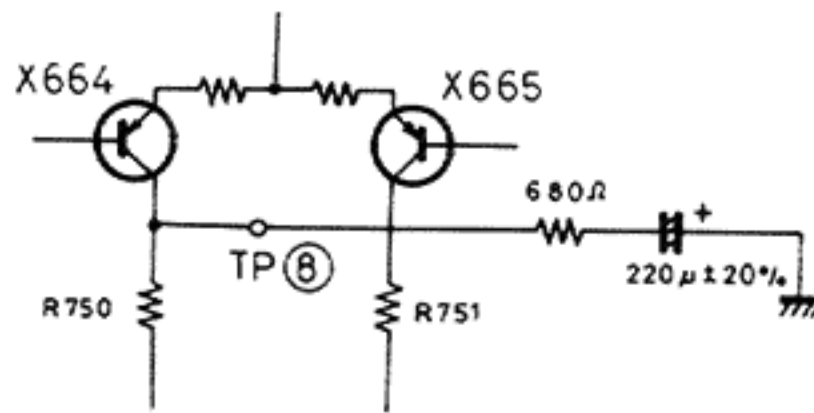

Fig. 42
Insert a 680-ohm resistor and a 220µF ±20% capacitor into TP ⑧ after starting the motor. (see Figure 42)